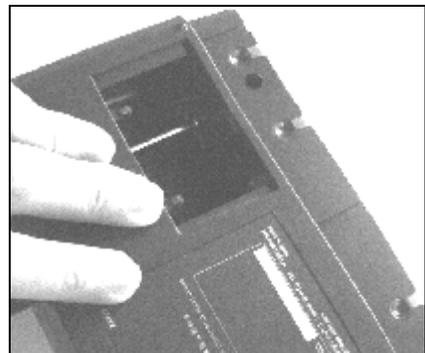

Figure 1-07a
MINIPRINTER uses heat sensitive paper with size of $\Phi 30 \times 57\text{mm}$ (internal hole $\Phi 7\text{mm}$). Refer to Figure 1-07a to Figure 1-07d for mounting the paper.
1. Open the paper lid on the back of the printer. See Figure 1-07a.